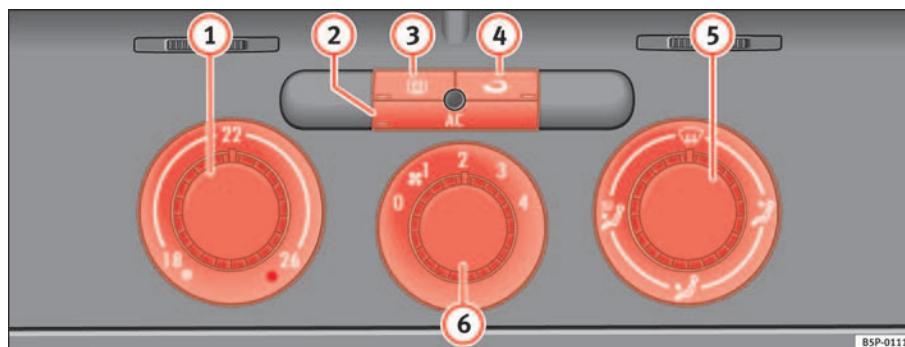

Fig. 122 On the dash panel: Climatic controls
- Using the controls ⇒ fig. 122 ① and ⑤ and the control ⑥ you can set the temperature, air distribution and the air flow.
- To switch a function on or off, press the appropriate button ②, ③ or ④. When the function is activated, the display window in the lower left of the button is lit.
- ① Temperature selector ⇒ page 150
- ② Button **AC** – cooling system on/off ⇒ page 150
- ③ Button – Rear window heating. The heating will be switched off automatically approximately 20 minutes after switching on. It can also be switched off beforehand by pushing the button.
- ④ Button – Air recirculation mode ⇒ page 151
- ⑤ Air distribution control ⇒ page 150
- ⑥ Blower switch. There are four speed settings for the air flow. The air flow should always be set at the lowest speed when driving slowly.
- Switch on the air conditioner using the button ⇒ page 149, fig. 122 .